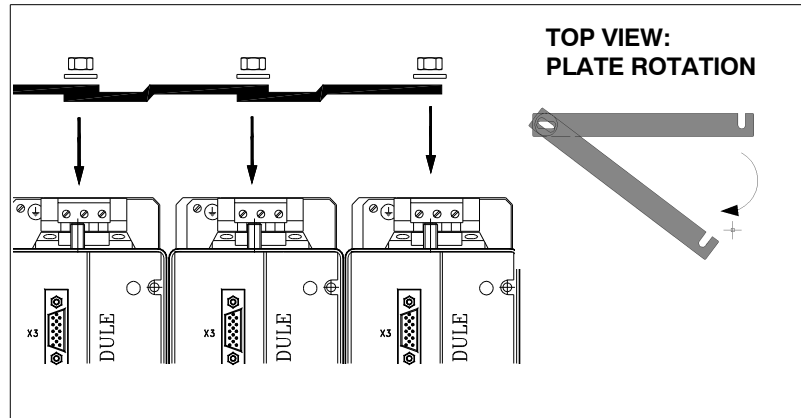

FIGURE H8.10
- C. Rotate the plate of the affected drive and that of the one to its left, see **FIGURE H8.10**.